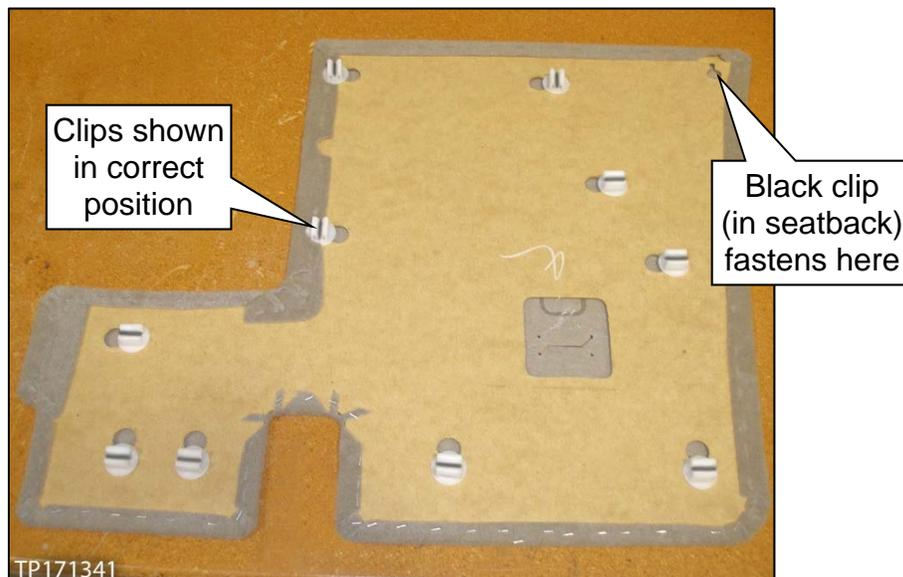

Figure 51a
- Before installing, position all seatback luggage board clips as shown in Figure 51a.